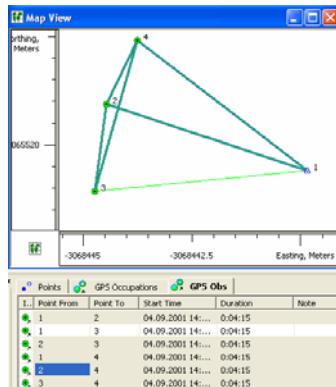

Figure 6-33. Select Vectors the Form a Loop
- On the main screen (Map View or *GPS Observations* tab) select static GPS observations that form a loop(s) (Figure 6-33).